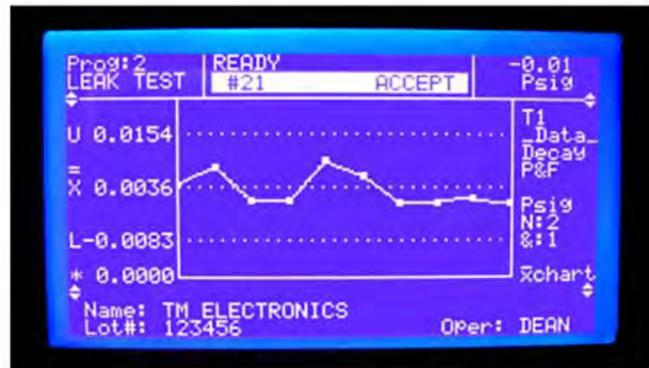

Figure 3. Control charts for leak results showing a process in control
3. In the TME Solution, the data points on the control chart consist of subgroups of test results. These subgroups can be as small as two tests (as in Figure 3), or as many as 20 tests. Subgroups are used to minimize the effect of a testing error or a single bad part.